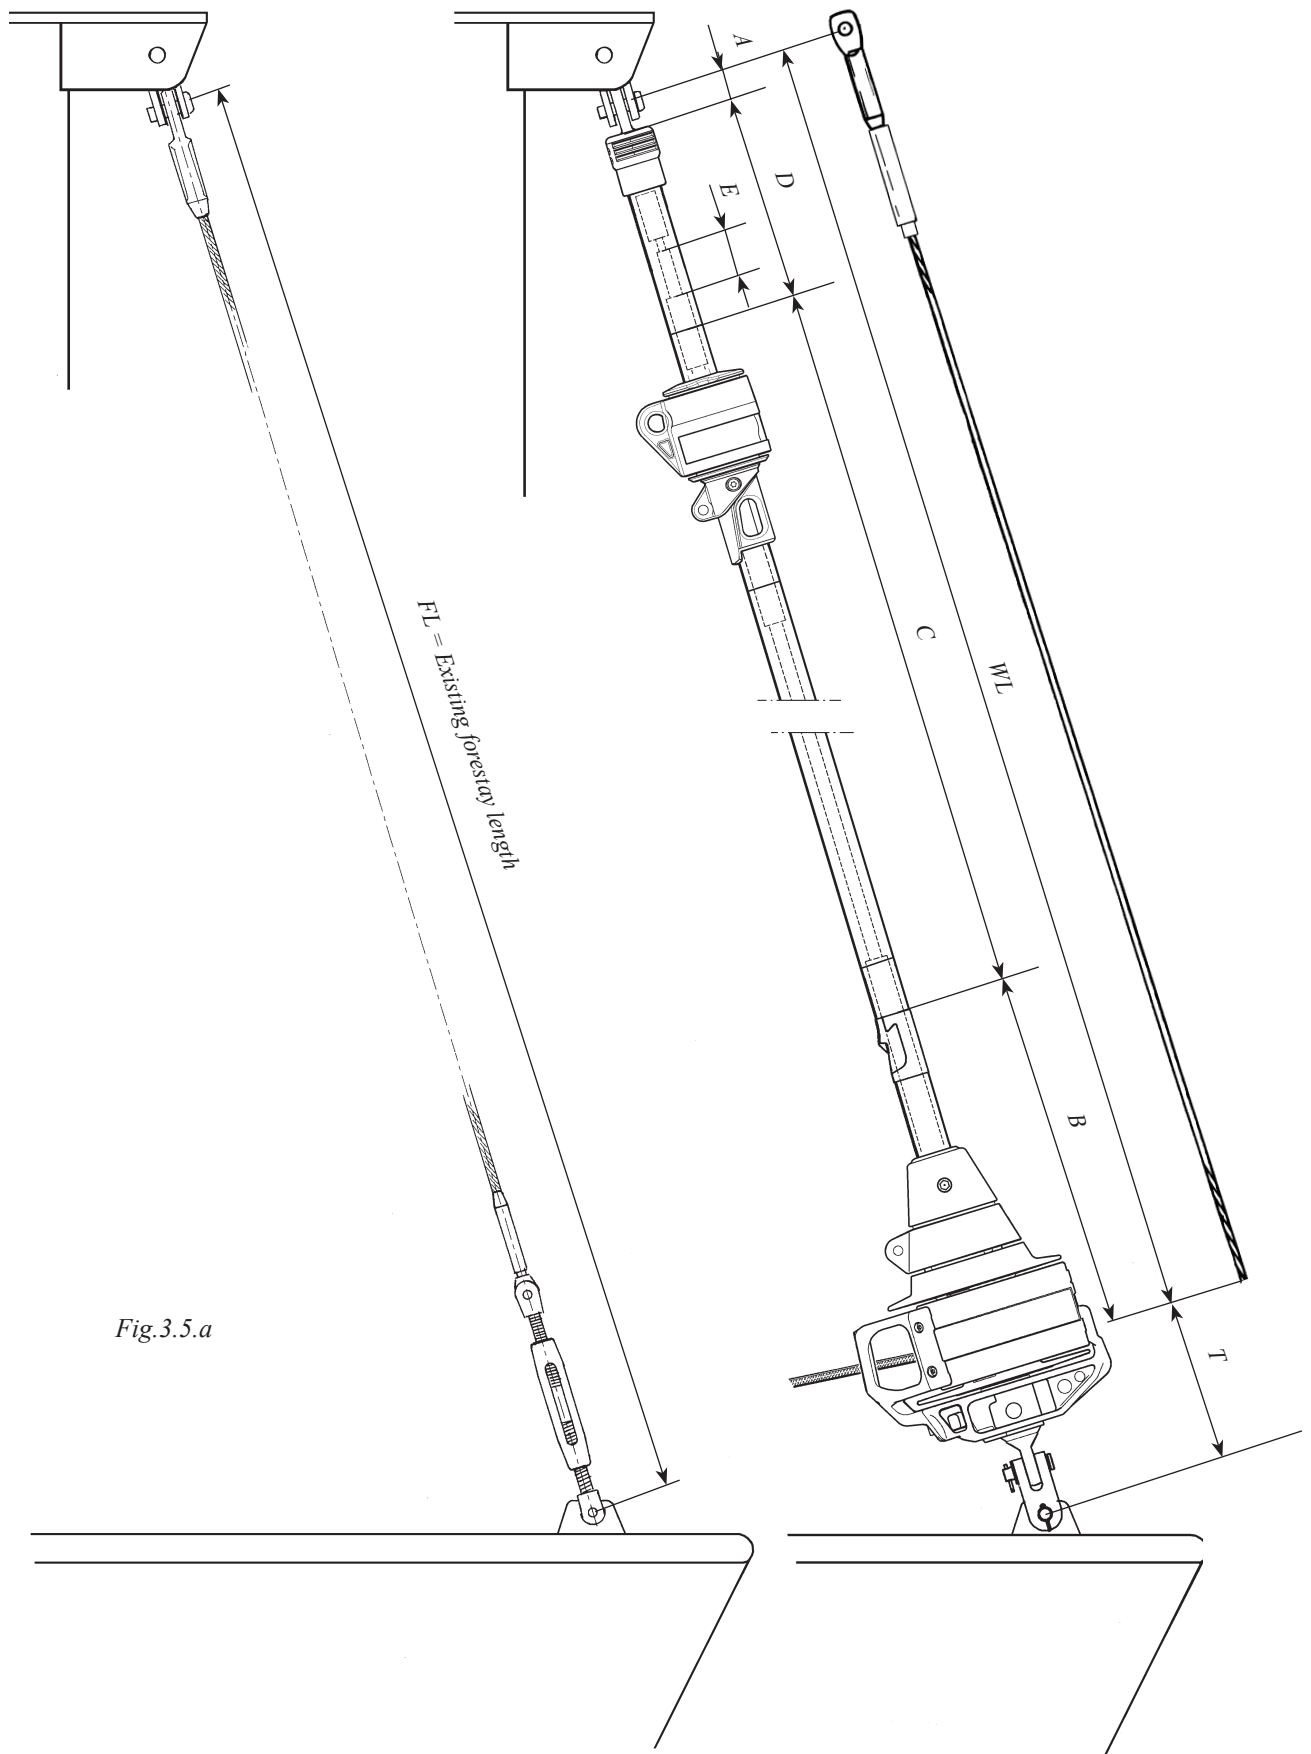

Fig.3.5.a
16. Check the length FL of the stay acc. **"Table 1"** (3.5.1) & fig. 3.5.a. If the Furlex rigging screw is fitted, it should be 50% extended. (**"Rigging screw adjustment"**, see table 14.1.1).